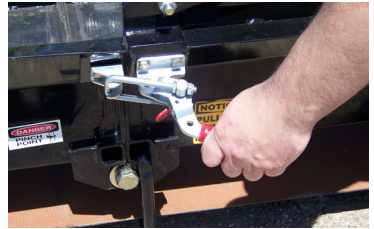

Fig. 1
2. Snap the locks securely into place, see Fig 1.